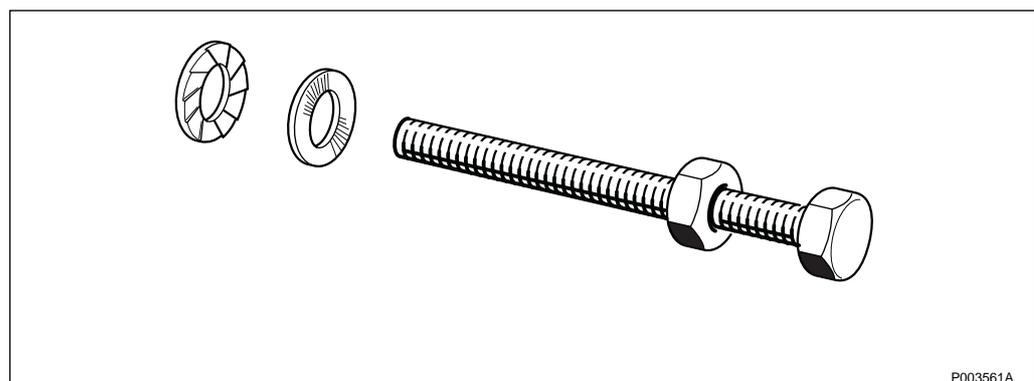

Figure 167 Mounting the washers
2. Make sure that the washers are mounted correctly see *Figure 167* on page 158.
5. Make sure that the washers are mounted correctly see *Figure 167 on page 158*.